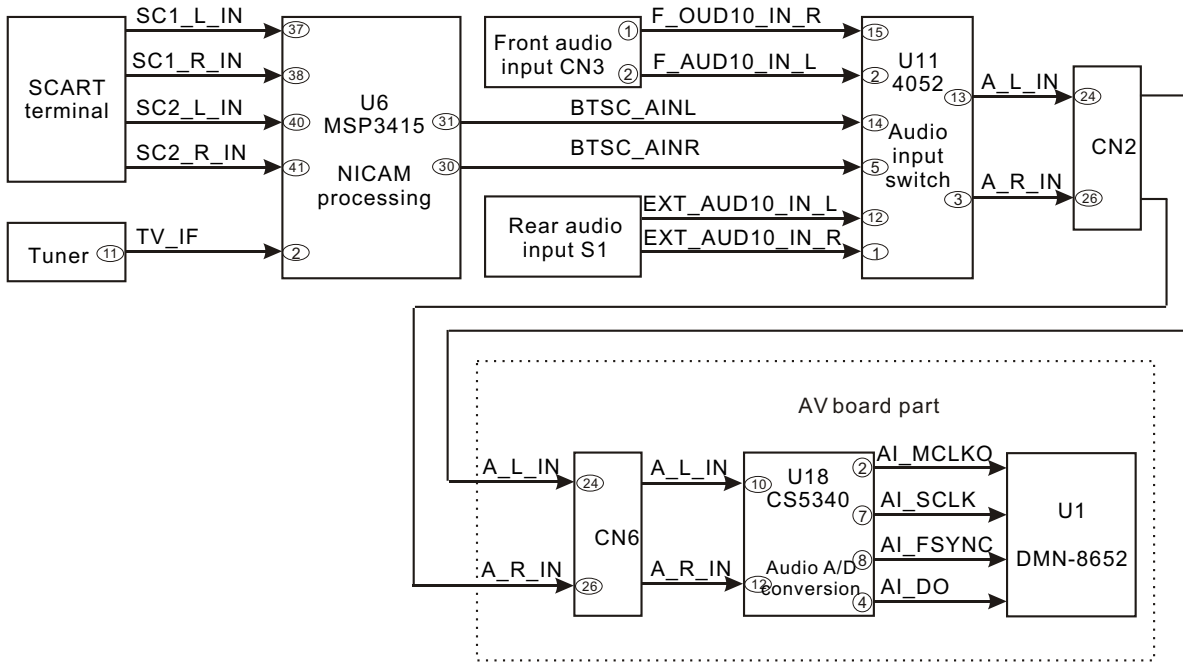

Figure 3.2.4.1 Audio input flow chart
1. Audio input flow chart is shown in the figure 3.2.4.1: